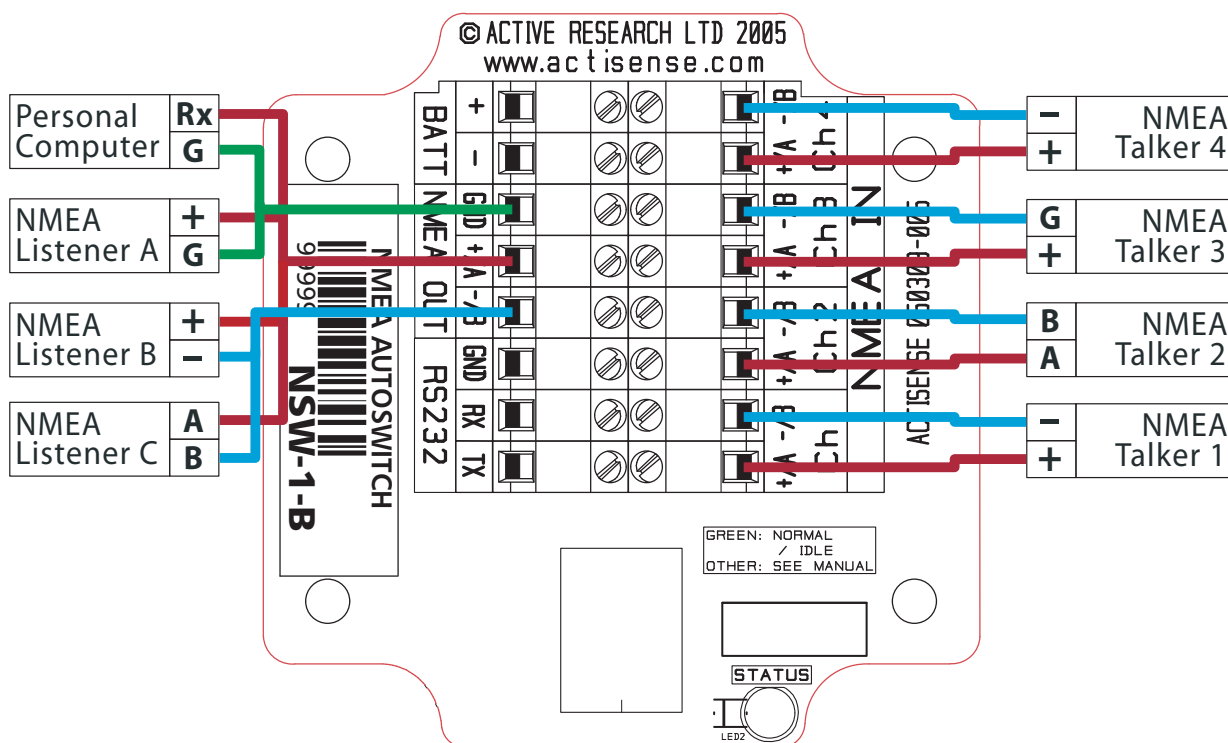

Figure 2 – NMEA 0183 connections
**NMEA Talker devices 1, 2 and 4:** These devices conform in full to the NMEA 0183 standard. Devices 1 and 4 share the same connection ID's as the Actisense™ NSW, so connection is a simple matter of matching the ID's (refer to figure 2). Device 2 uses the RS485 convention connection ID's. Simply connect 'A' to '+/A' and 'B' to '-/B' (refer to figure 2).